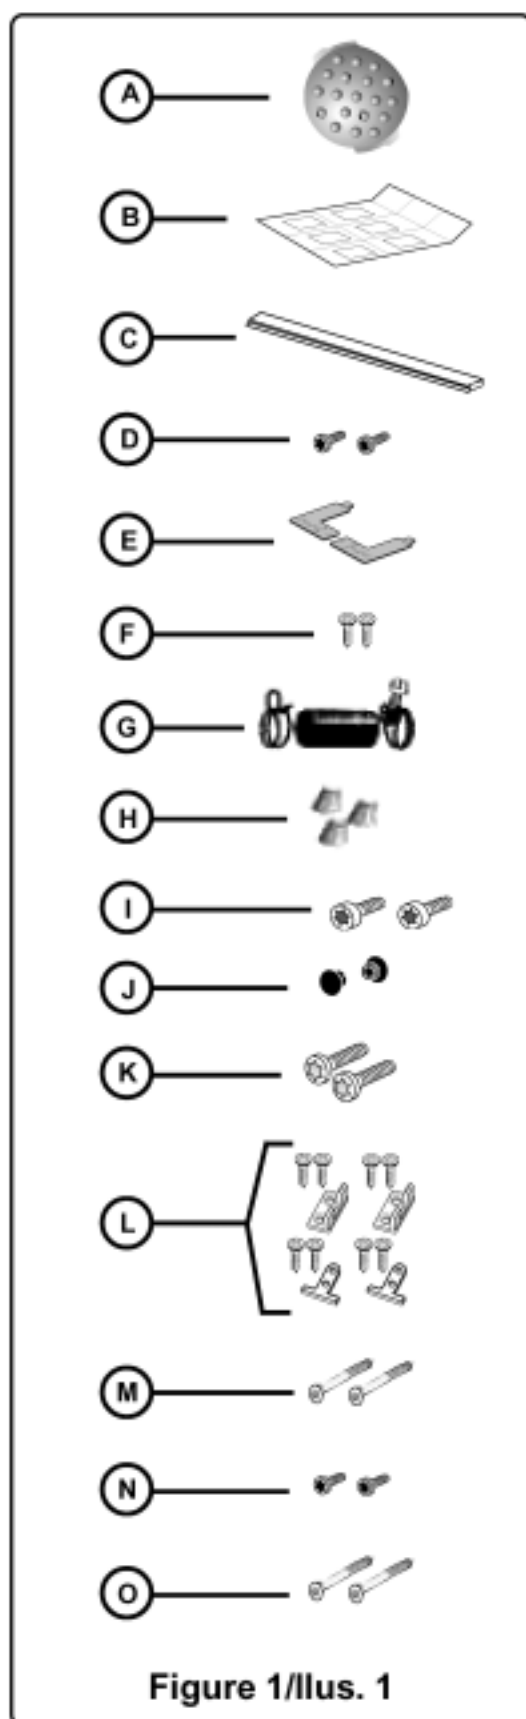

Figure 1/Ilus. 1
Accessory Parts for your dishwasher will come in one or more plastic bags. Check to make sure that the parts shown in Figure 1 are included with your model (NOTE: Illustrations are not to scale). If any parts are missing, contact your dealer immediately.
- Extra Tall Item Sprinkler (Figure 1, letter A)
SHI and SHV models also have SHI/SHV Panel Installation Template Sheet (Figure 1, letter B).
SHY66 and SHX56 models also have a Cotton Insulation Strip (Figure 1, letter C).